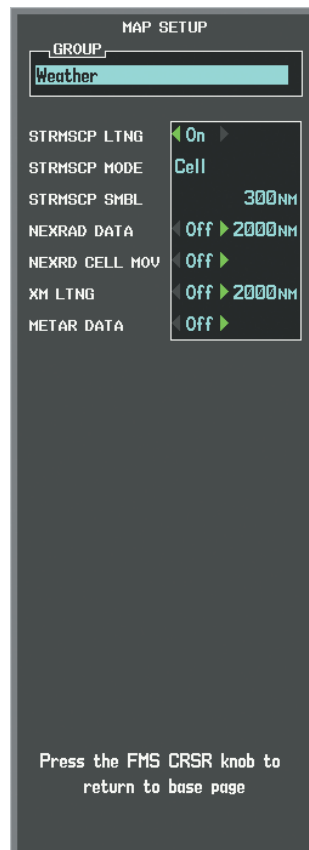

Figure 6-110 Map Setup Menu
- 4) Turn the large **FMS** Knob to highlight and move between the product selections (Figure 6-110).
The following Stormscope options are available (Figure 6-110):